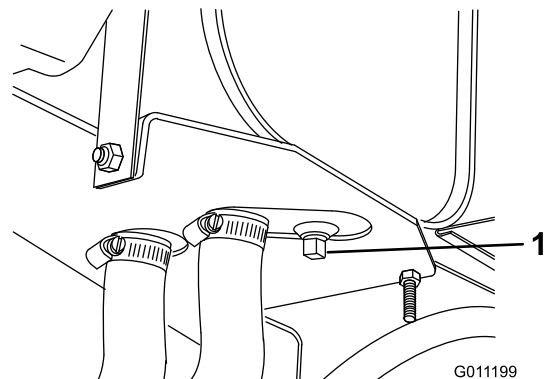

Figure 50
1. Remove the drain plug from the reservoir (Figure 50) and let hydraulic oil flow into a drain pan. Reinstall and tighten the plug when hydraulic oil stops draining.